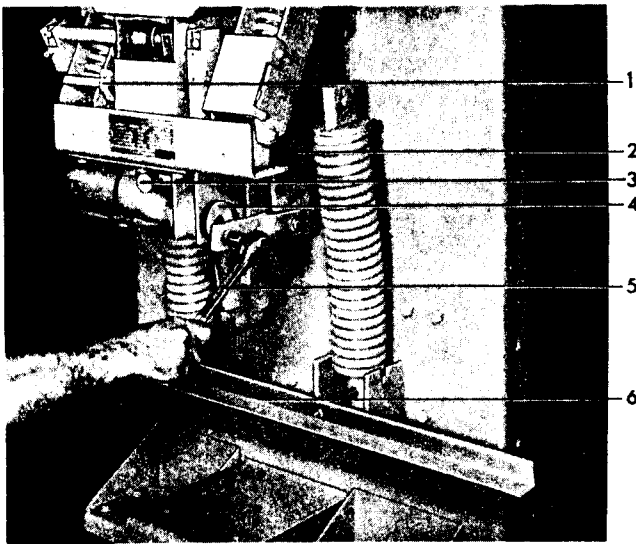
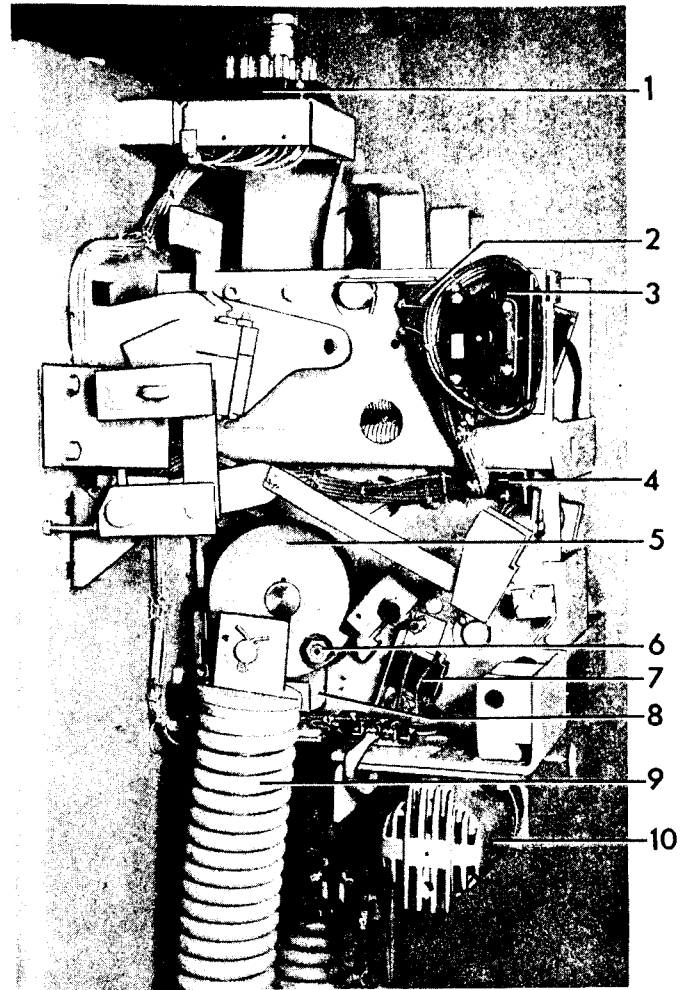
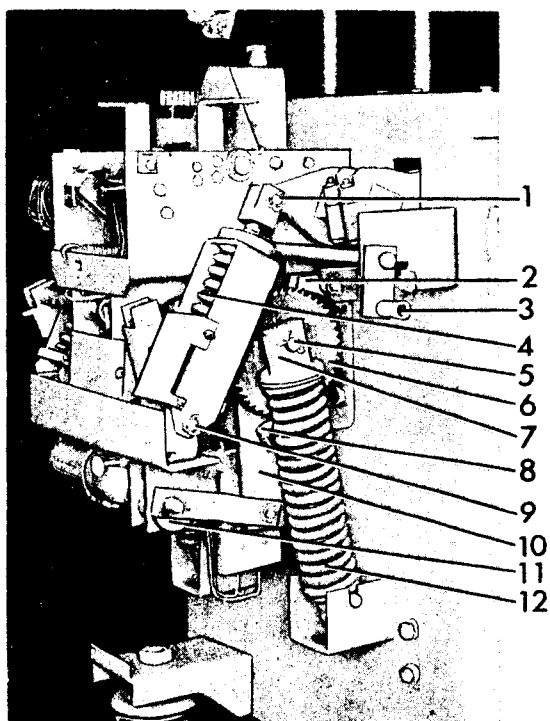
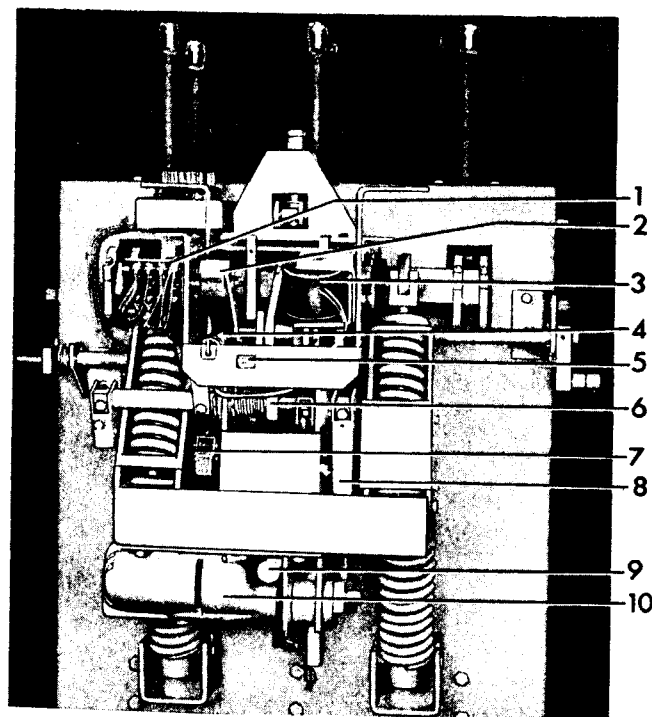

Figure 1. (8040935) Spring Blocking Device
Figure 2. (8040932) Left Side View ML-13 Operating Mechanism
Figure 4. (8038804) Right Side View ML-13 Operating Mechanism
Figure 5. (8038803) Front View ML-13 Operating Mechanism
2. Charge the breaker closing springs manually using a 5/8" ratchet wrench to turn the driving eccentric (4) Figure 1. Turning the eccentric counter-clockwise will advance the ratchet wheel and compress the springs.
manual close and trip levers on the breaker. All secondary connections from the breaker to the metal-clad unit are made through the coupler (1) Figure 2.
A positive interlock (3) Figure 4 and interlock switch (2) Figure 2, are provided between the breaker and metal-clad unit to prevent raising or lowering of the breaker in the unit while in a closed position and to prevent a closing operation when the breaker is not in either the fully raised or lowered position. To insure that this interlock will function during manual, as well as during electrical operation of the equipment, both mechanical and electrical blocking is provided. If
The mechanism has a high speed gear motor (10) Figure 5, that compresses a set of closing springs through the action of an eccentric, ratchet, and pawl assembly. The rotary action of the motor is converted to a straight stroke through the eccentric (11) Figure 4, and a lever that carries a spring loaded driving pawl (2) Figure 1.
The pawl advances the ratchet wheel (6) Figure 4 a few degrees each stroke where it is held in position by the latching pawls (2). When the ratchet wheel has been rotated approximately 180 degrees the closing spring (12) will be fully compressed. As the ratchet wheel continues to rotate, the spring load will shift over center and attempt to discharge. After a few degrees of rotation, the closing roller (6) Figure 2, will engage the closing latch (8) and the compressed springs will be held by the latch until a closing operation is required. During the last few degrees of the ratchet wheel rotation the power switches (7)
Refer to Figure 4. The driving pawl (8) must advance the ratchet wheel (6) sufficiently on each stroke to allow the latching pawls (2) to fall into the ratchet teeth. This should be checked with the closing spring load against the driving members. With the mechanism unblocked, hand charge the closing springs with the manual